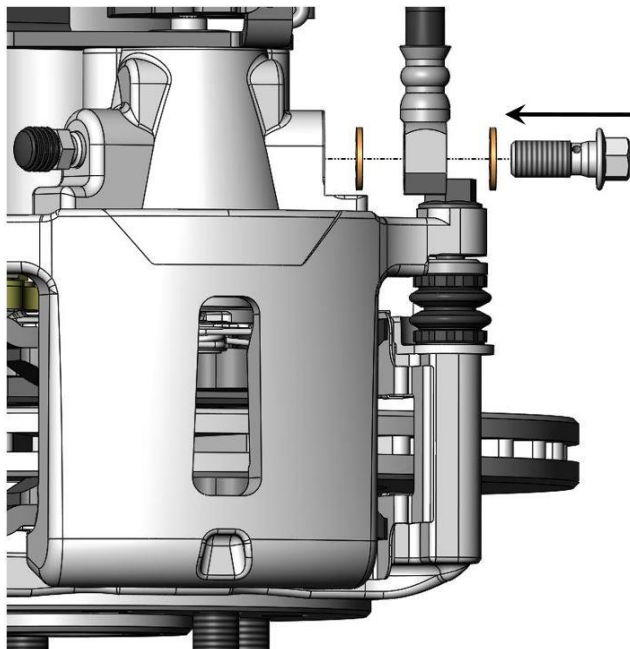
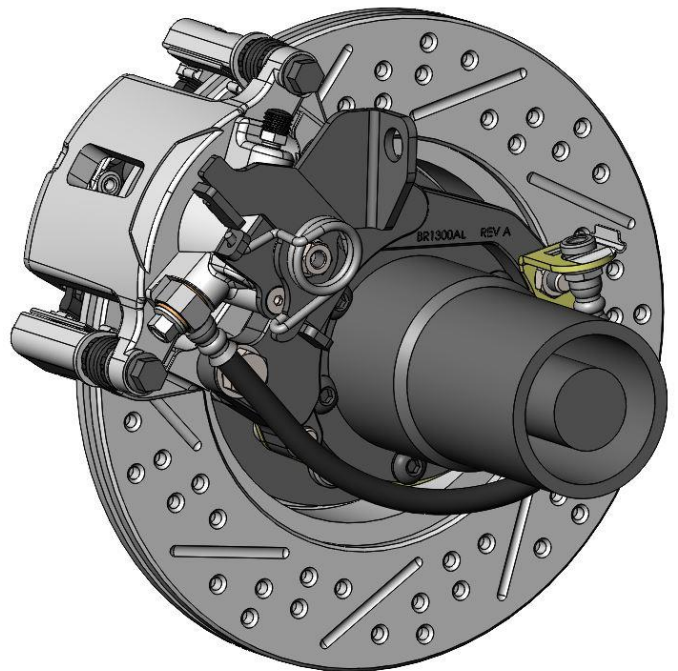

Figure 11a – Brake Hose Attachment to Caliper
Figure 11b – Brake Hose Attached at the Rear Axle Housing
14. Install the flexible brake hose. Attach the brake hose to the caliper using the provided banjo bolt and copper crush washers as shown in Figure 11a below. Next route the hose under the axle tube and attach it to the previously installed Brake Hose Mounting Bracket with the provided clip. Attach the hardline to the brake hose. **NOTE: Depending on the location and fitting size on the OEM hardline, it may be necessary to shorten and re-flare along with slightly bending the hardline to line up properly.** Proper installation of the flexible brake hose can be seen in Figure 11b below.